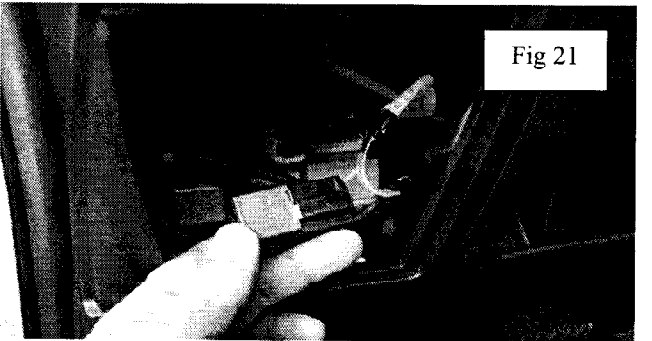

Fig 21
16. Remove fuse access panel door. Route inside half of lamp harness through dash and connect inner & outer harnesses at location referenced in step 8. See Fig 21